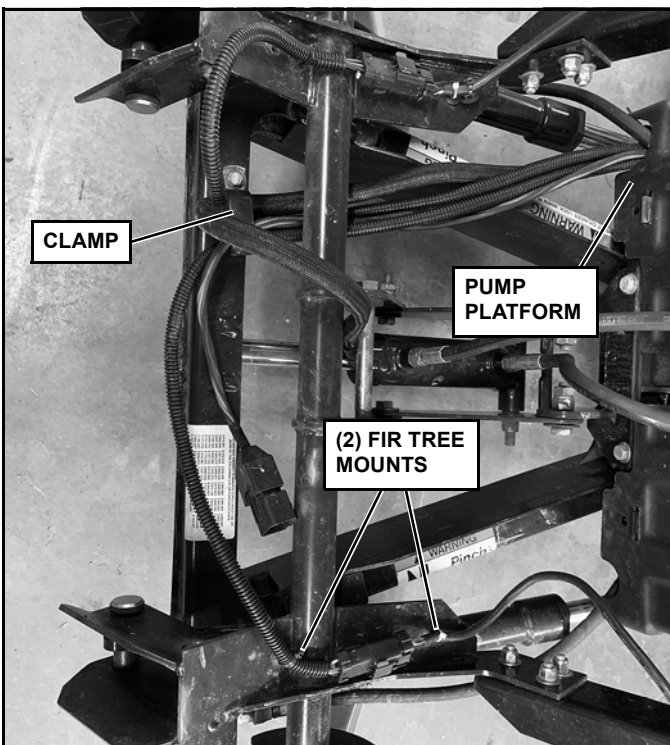
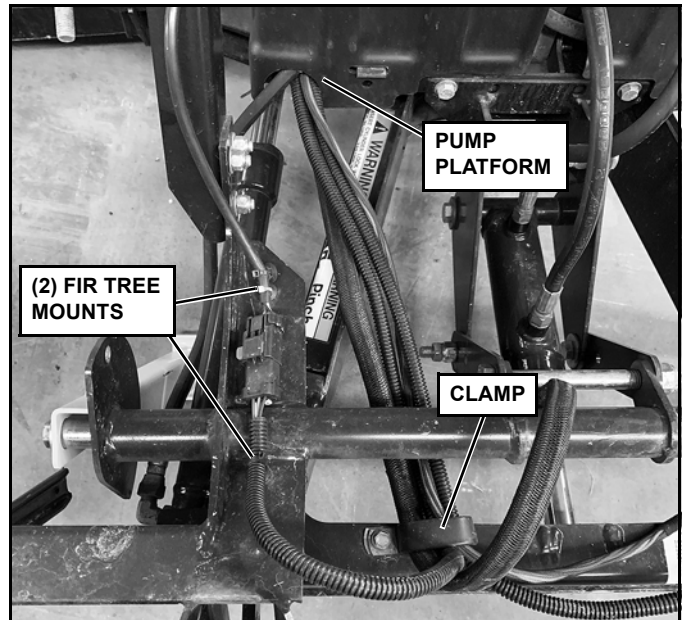

Figure 1-13
Figure 1-14
14. Remove the Extension harnesses from the parts bag. Plug the longer of the two harnesses into the passenger side light harness. Secure the harness to the Lower Light Lift Bar with two fir tree mounts. The plugs should be between the two fir tree mounts. Run the harness along the back of the A-Frame, and alongside the power and ESS harnesses up to the pump platform. (See Figure 1-13 and Figure 1-14)
15. Plug the shorter harness into the drivers side light harness. Secure the harness to the Lower Light Lift Bar with two fir tree mounts. The plugs should be between the two fir tree mounts. Run the harness alongside the power and ESS harnesses up to the pump platform. (See Figure 1-13 and Figure 1-14)
16. Remove the cable clamp from the parts bag. Insert the Power, ESS, and extension harnesses into the clamp. Secure clamp to the back of the A-Frame using 1/4" x 1.00" Screw, 1/4" Washer, and 1/4" Locknut. (See Figure 1-13 and Figure 1-14)